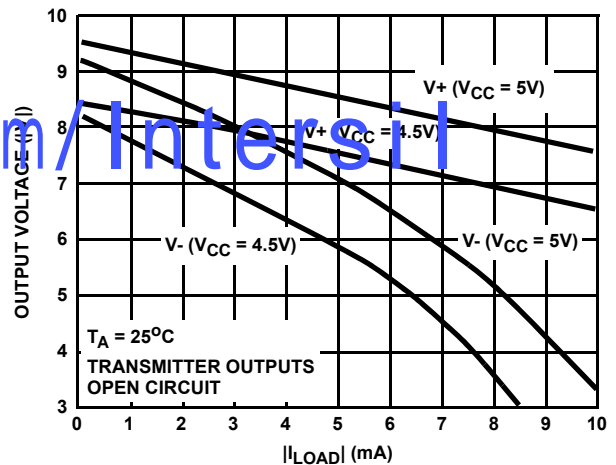

FIGURE 4. V+, V- OUTPUT VOLTAGES vs LOAD CURRENT
3. See Figure 4 for definition.